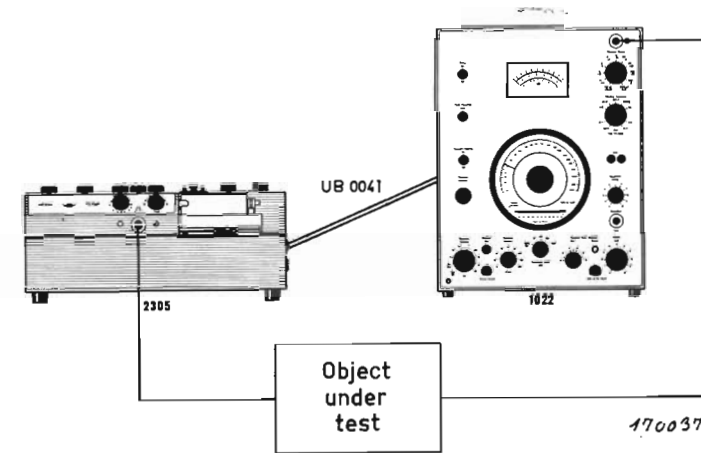
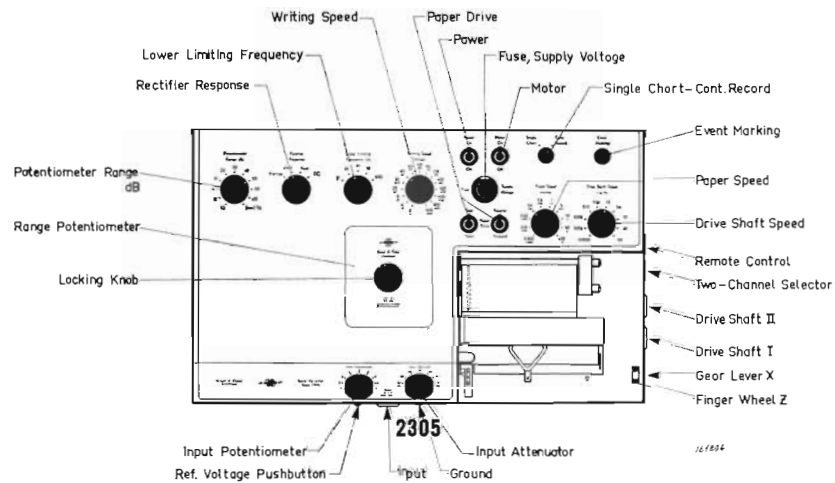

Fig.4.2. Basic set-up for automatic recording
Fig.4.3. Level Recorder 2305
2. Connect the instruments as shown in Fig.4.2. The flexible driving shaft (UB 0041) should be connected to the upper driving shaft of the Recorder, DRIVE SHAFT I (Fig.4.3.). The other end should be connected to the drive socket on the left hand side of the 1022 (Check engagement by switching on the Level Recorder and the magnetic clutch of the 1022 and note if the scale pointer rotates).
7. Pull gear-lever marked X to the outer position. (See Fig.4.3.).
Reset recording paper by finger wheel Z (Fig.4.3.) until the stylus rests on the 10 Hz line.